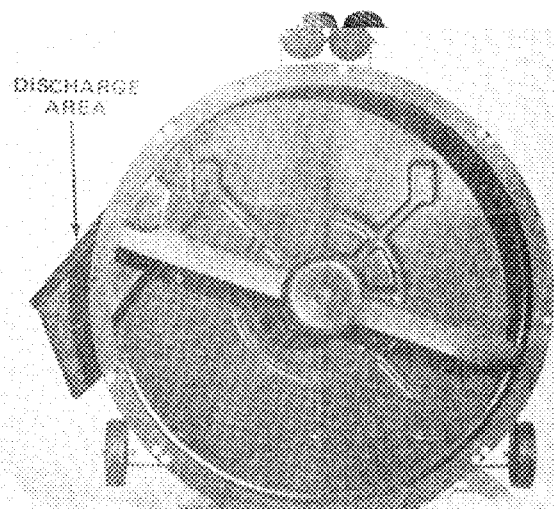

Figure 4
4. Remove carriage bolt, spacer, and locknut securing deck ring under discharge area and use to secure remaining mounting hole to the rear of discharge area (Fig. 4).